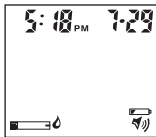

Figure 40
1. When the “” symbol appears alone on the display, the meter is functional and the result remains accurate, but you should change the batteries as soon as possible. See Figure 40.